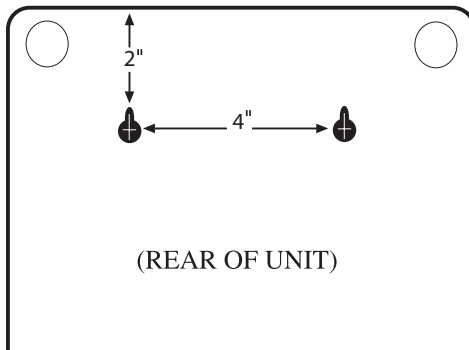

Figure 2-1. Wall Mount
**Flat Mount:** Place the Model 400 on top of a desk or other horizontal surface. **Wall Mount:** Mount on a wall with two flathead screws using the keyholes on the back panel of the unit. Place the flathead screws or bolts 4" apart at 6ft (2m) or less above the floor. Hook the unit over the screws and toward the floor. Refer to Figure 2-1.